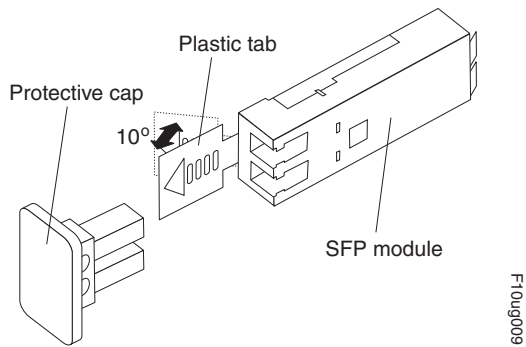

Figure 15. Unlocking the SFP module latch - plastic variety
- For SFP modules that contain plastic tabs, unlock the SFP module latch by pulling the plastic tab outward 10°, as shown in Figure 15 on page 24.